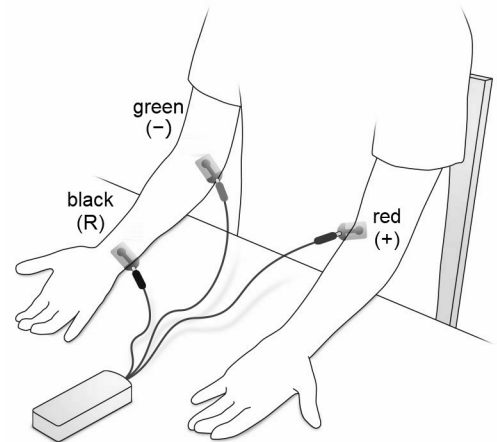

Figure 1. EKG leads attached to the electrodes.
1. Rub the skin at the locations shown in (Figure 1) with a paper towel to remove dead skin and oil. Shaving excess hair at these locations may provide better results.